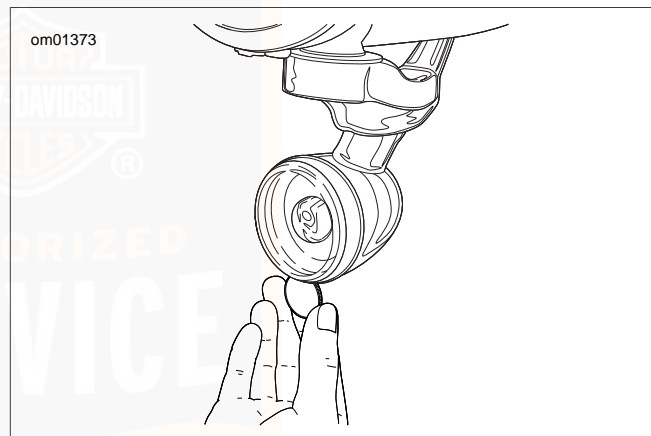

Figure 62. Lens Cap Notch
1. See Figure 62. Insert a coin or the blade of a small screwdriver into the notch at the bottom of the lens cap. Carefully twist until the lens cap pops out of the lamp housing.